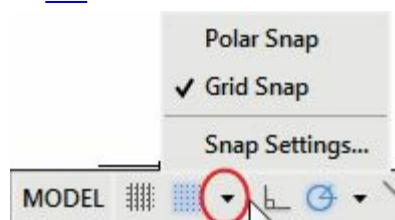

Figure-52. Snap flyout
- Click on the down arrow next to **Grid Snap** button; a flyout will be displayed as shown in Figure-52.